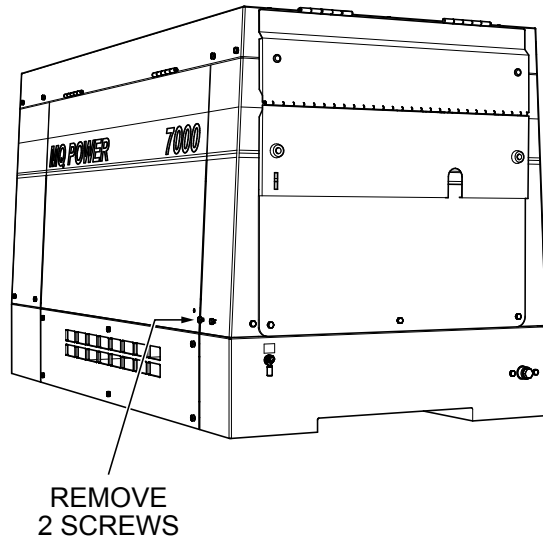

Figure 4. LVD Mounting Bracket Location
5. Locate the two screws on the left side generator wall (Figure 4) closest to the generator front panel.
6. Using a 5/16" or 3/8" wrench (Figure 4), remove the two screws.